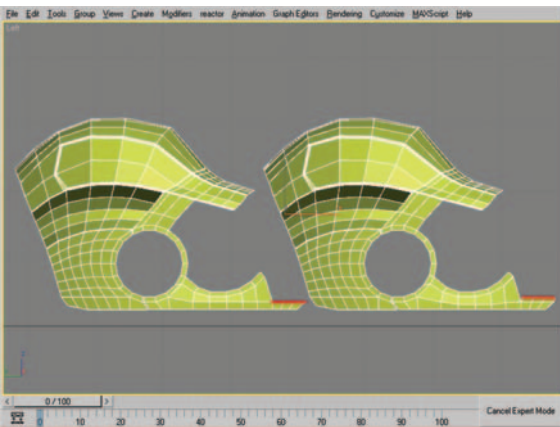

Figure 8.57 Edge selection (left) and selection after performing shift-drag (right). An additional row of edges has been created.
58. Select the three edges seen in Figure 8.57 (left) and shift-drag them upward (Figure 8.57, right).